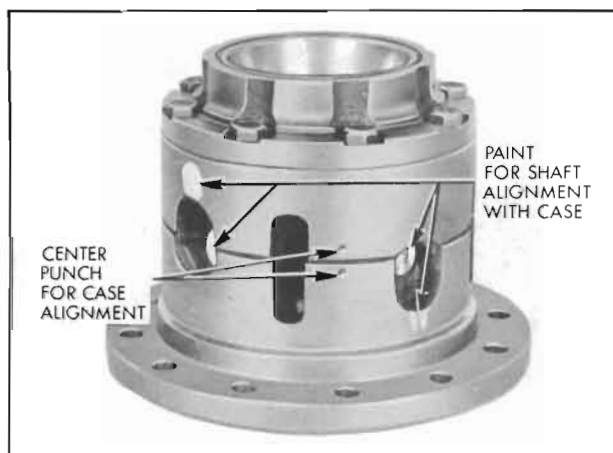

Figure 6-40—Alignment Marks
4. Mark flange half and cover half of case with a center punch to provide alignment when assembling. If cross shafts are to be reused, see that they have a paint daub on one end of each shaft matching a similar paint daub on the case to assure assembly in proper location. See figure 6-40.